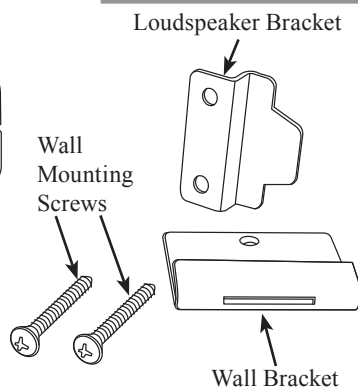

Figure 5
The supplied On Wall Mounting Brackets allow for different mounting positions of the LCR80 Loudspeaker relative to the wall, both vertical and horizontal. Two positions are flush mount, with the Loudspeaker close to and parallel with the wall. The other position is angle mount, which places the Loudspeaker further away from the wall and allows for rotation of ± 30 degrees. Refer to figure 5.
3. Attach either the flush mount or angle mount brackets to the rear of the Loudspeaker. Refer to the chart below, along with figures 5 and 7 for the